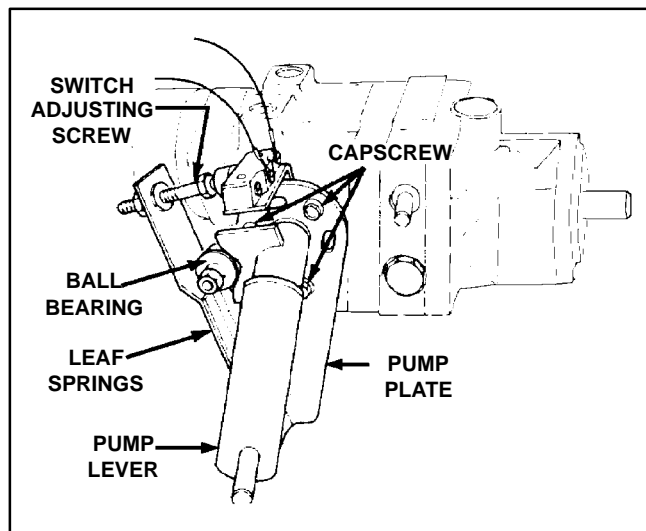

Figure 13
Traction Control Neutral Adjustment (Fig. 13)
1. Park vehicle on a level surface and turn engine off. Apply the parking brake, tip seat forward, and actuate pump lever (Fig. 13) to ensure assembly is properly seated and operating freely. Correct any discrepancy.
B. Loosen three (3) capscrews that secure pump plate to transmission.